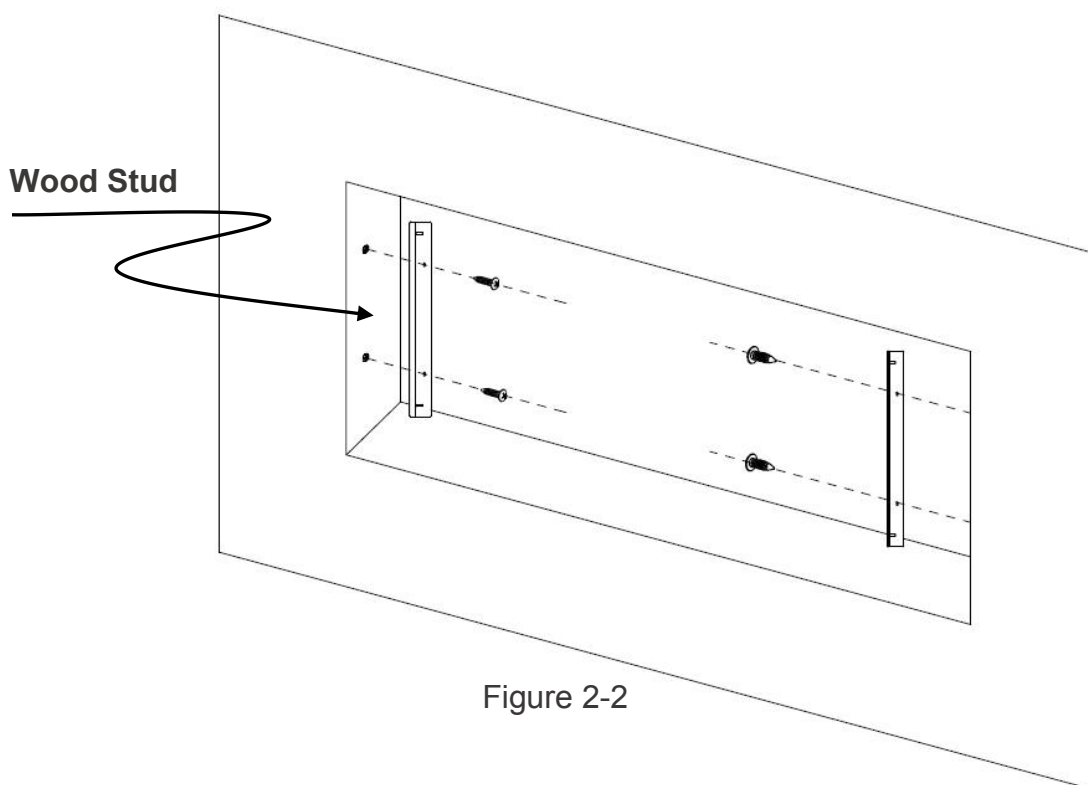

Figure 2-2
- C. Fix the two metal brackets (1 per side), with 4 screws (supplied) through wood stud. **(Figure 2-2)**